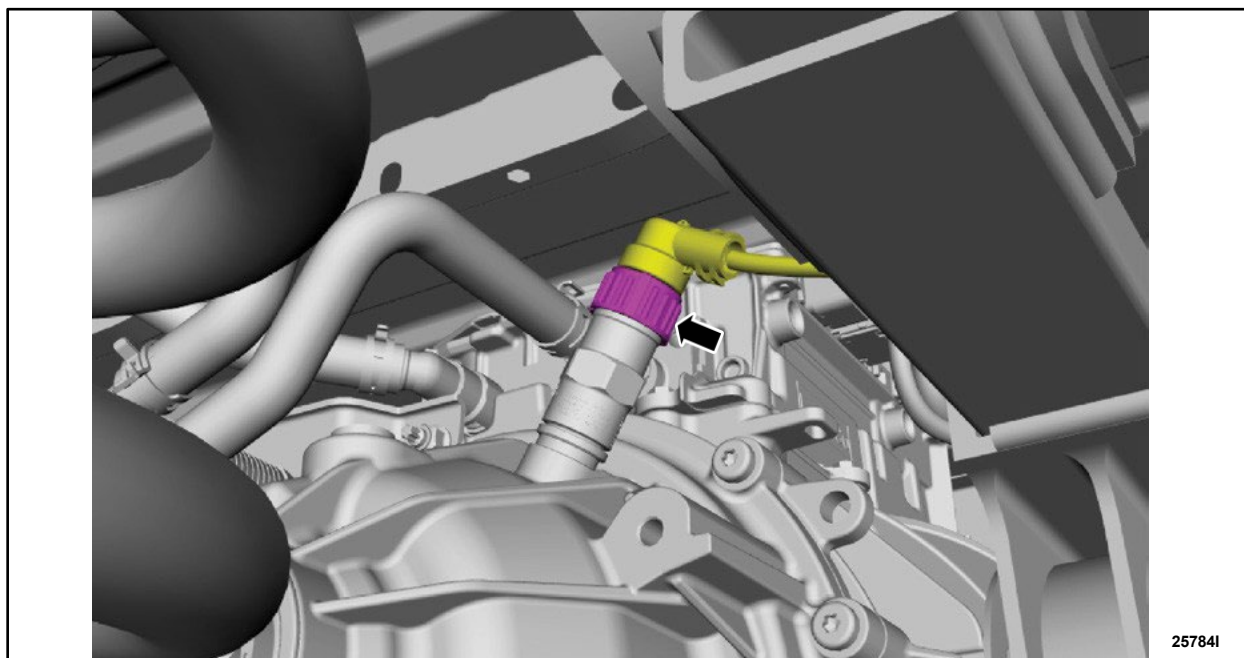

FIGURE 13
17. If equipped, disconnect the Output Shaft Sensor (OSS) electrical connector. See Figure 13.